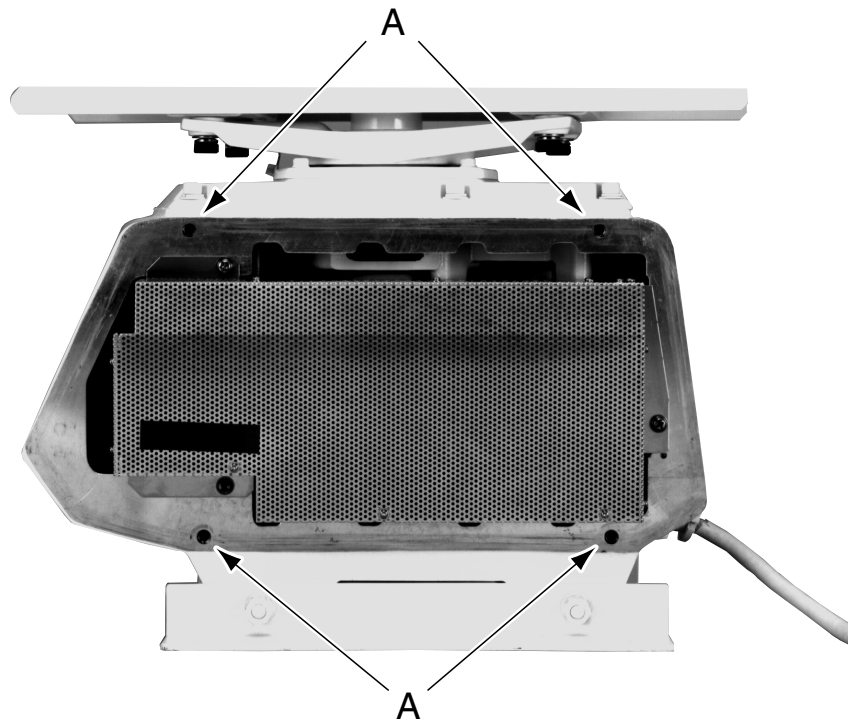

Fig. 8.5 Internal View of 25kW Scanner Unit NKE-1056
- (1) Loosen the four A screws from the cover on the left side (when the scanner unit is viewed from the cable ground) to remove the cover (see Fig. 8.5).